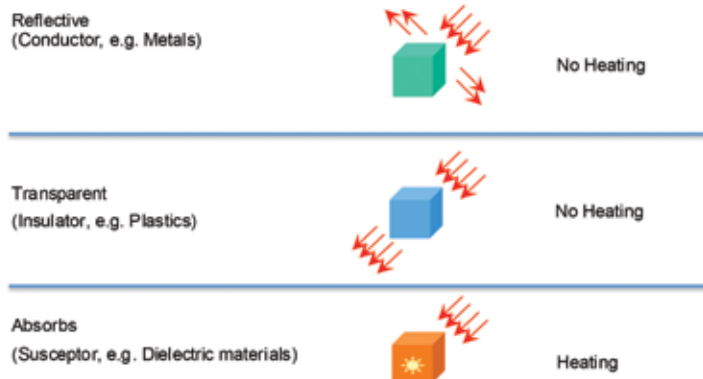

Figure 3
Microwaves interact with various materials differently depending on several factors. In simplistic terms, there are three general ways in which microwaves interact or don't interact with materials: (1) the material is reflective (i.e. it will reflect the microwaves), (2) the material is transparent to the microwaves (i.e. there is no or little interaction with the microwaves), and (3) the material will absorb the microwave and heating will take place. In reality all three interactions can be occurring at the same time to a degree and the mechanisms can be more complex. Figure 3 shows these various interactions (modified from Reference 3).